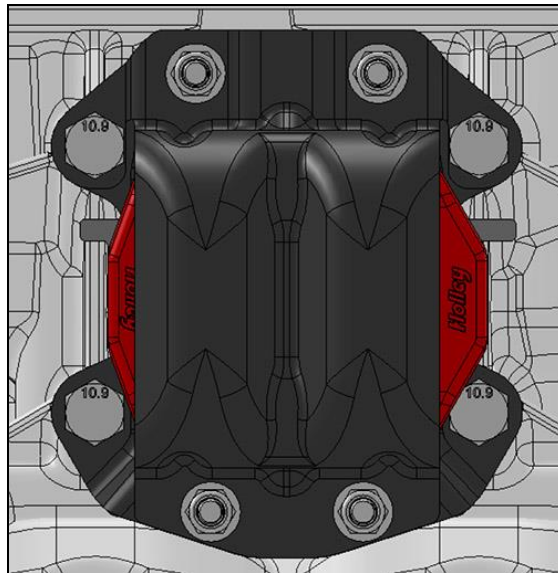

Figure 2
4. Attach the clamshell/insert assemblies to the intended engine with user-supplied M10 fasteners with the straight edge of the clamshells facing up as depicted in **Figure 2**.